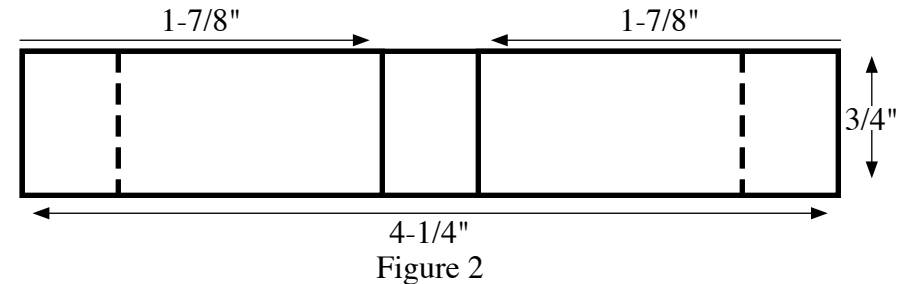

Figure 2
- 2) Flip over the piece. Measure $1-7/8$ " from each narrow end and draw a line across the piece (Figure 2). Again, carefully score the lines with the hobby knife. This piece will be the motor stand. Set it aside.